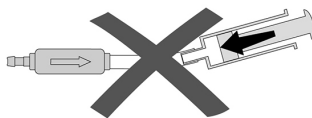

Fig. 7: Avoidance of pressurisation
- ▶ Pressurisation with a single-use syringe should be avoided both at the proximal and the distal end (Fig. 7).